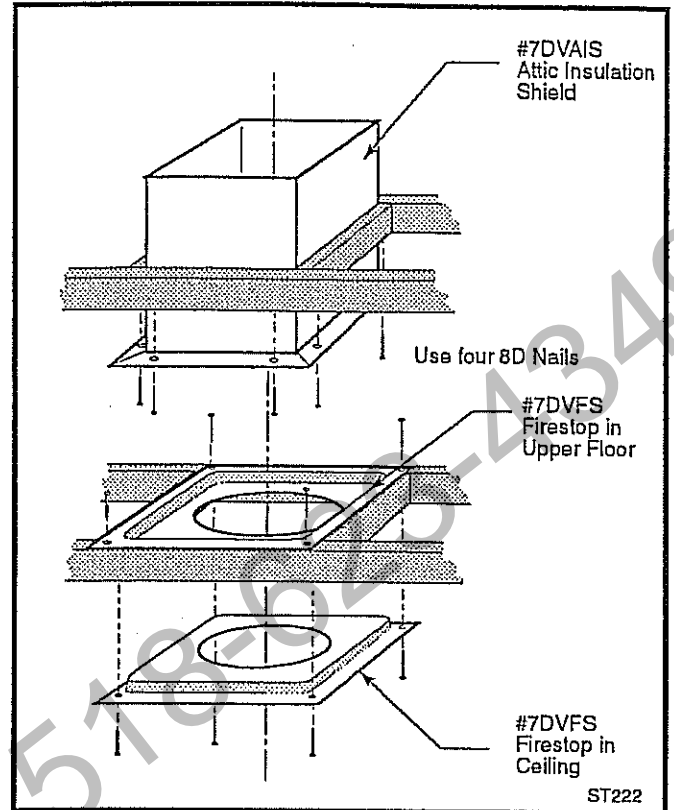

Fig. 42 Install firestops and attic insulation shield.
8. Install Firestop(s) #7DVFS and Attic Insulation Shield #7DVAIS as appropriate. (Fig. 42) If there is a room above ceiling level, a firestop must be installed on both the bottom and top sides of the ceiling joists. If an attic is above ceiling level, an Attic Insulation Shield must be installed.